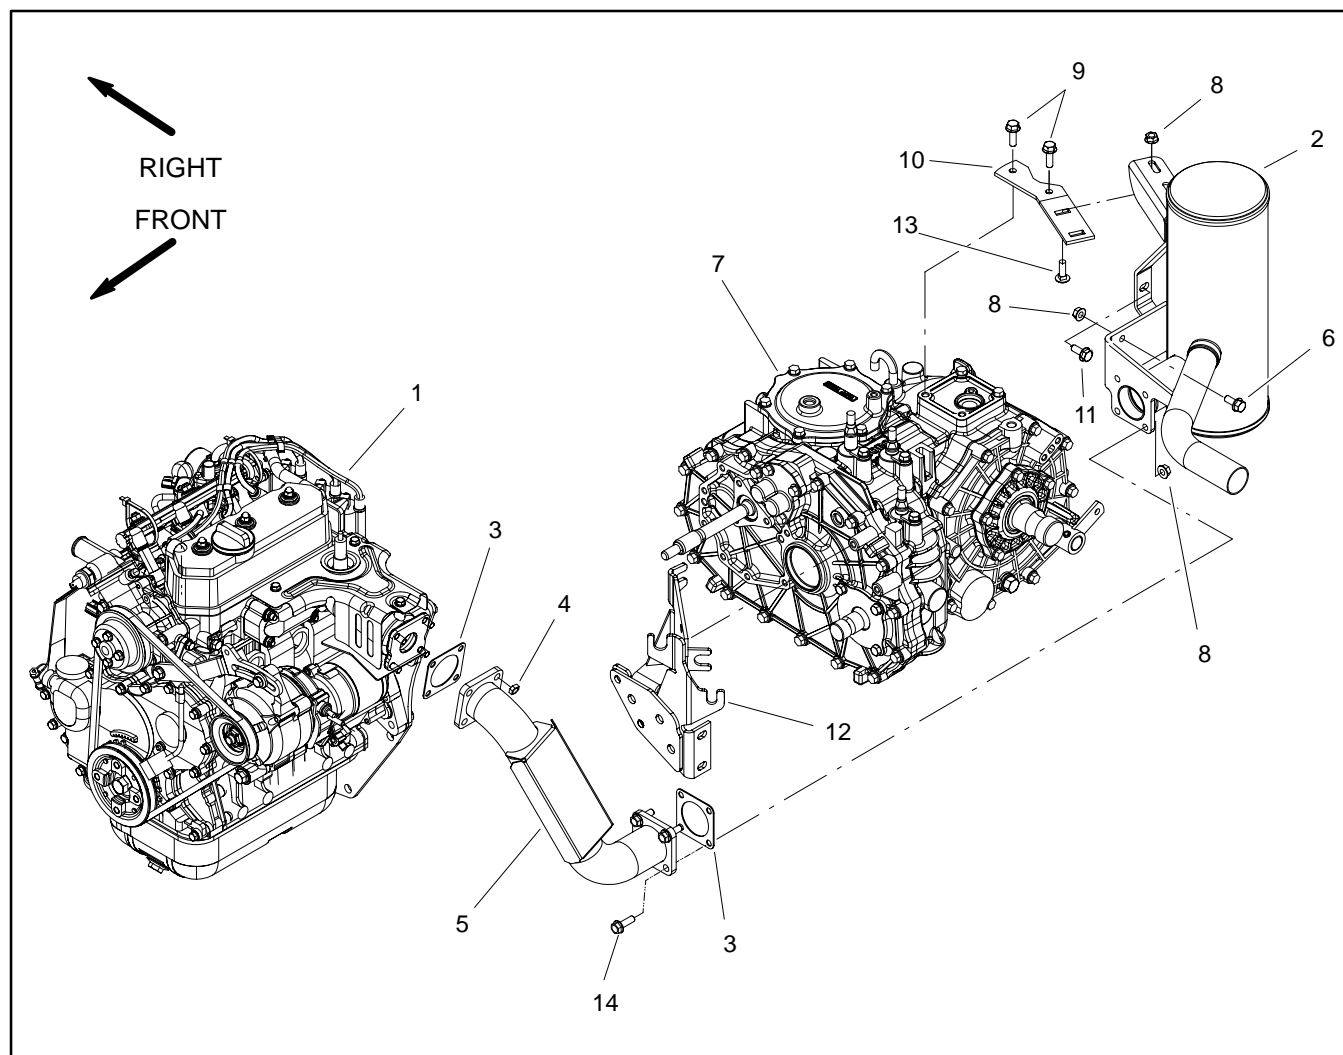

Figure 12
Removal (Fig. 12)
3. Remove exhaust system components as needed using Figure 12 as a guide.
Installation (Fig. 12)
2. Using Figure 12 as a guide, fit all exhaust components to vehicle before tightening any fasteners. When securing exhaust, tighten fasteners in the following order:
- A. Hex nuts (item 4) that secure exhaust tube to engine.
- B. Flange head screw (item 11) that secures muffler to transaxle.
- C. Flange head screws (item 14) and flange nuts (item 8) that secure muffler to exhaust tube.
- D. Flange head screws (item 6) and flange nuts (item 8) that secure muffler to shift cable mount bracket.
- E. Carriage bolts (item 13) and flange nuts (item 8) that secure muffler to mount plate.